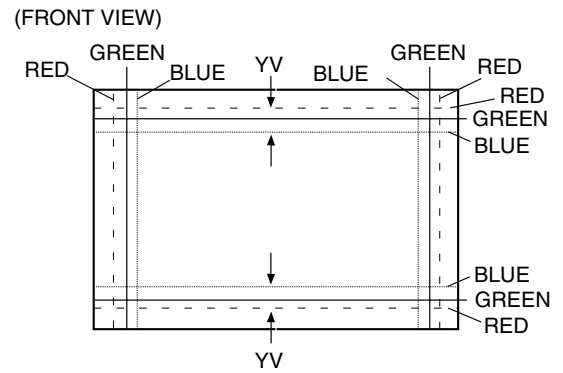

Fig. 15
2. Using the Y_V VR on the deflection yoke, match the Y_V . (Fig. 15 and 17)